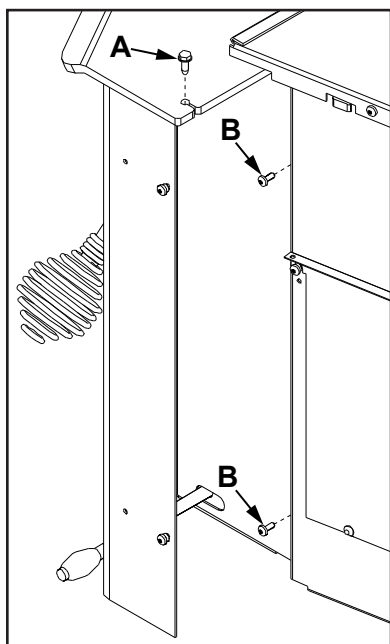

Figure 54: Removal of right pod.
4. Remove the screw, using a $\frac{5}{16}$ " socket or wrench, that goes down through the firebox top into a bent over tab at the top of the shroud (see A in Figure 54).
- b. For the second method (recommended for the right shroud), remove the two (2) T-20 screws that hold the shroud to the unit (see B in Figure 54). Pull the shroud out through the side.